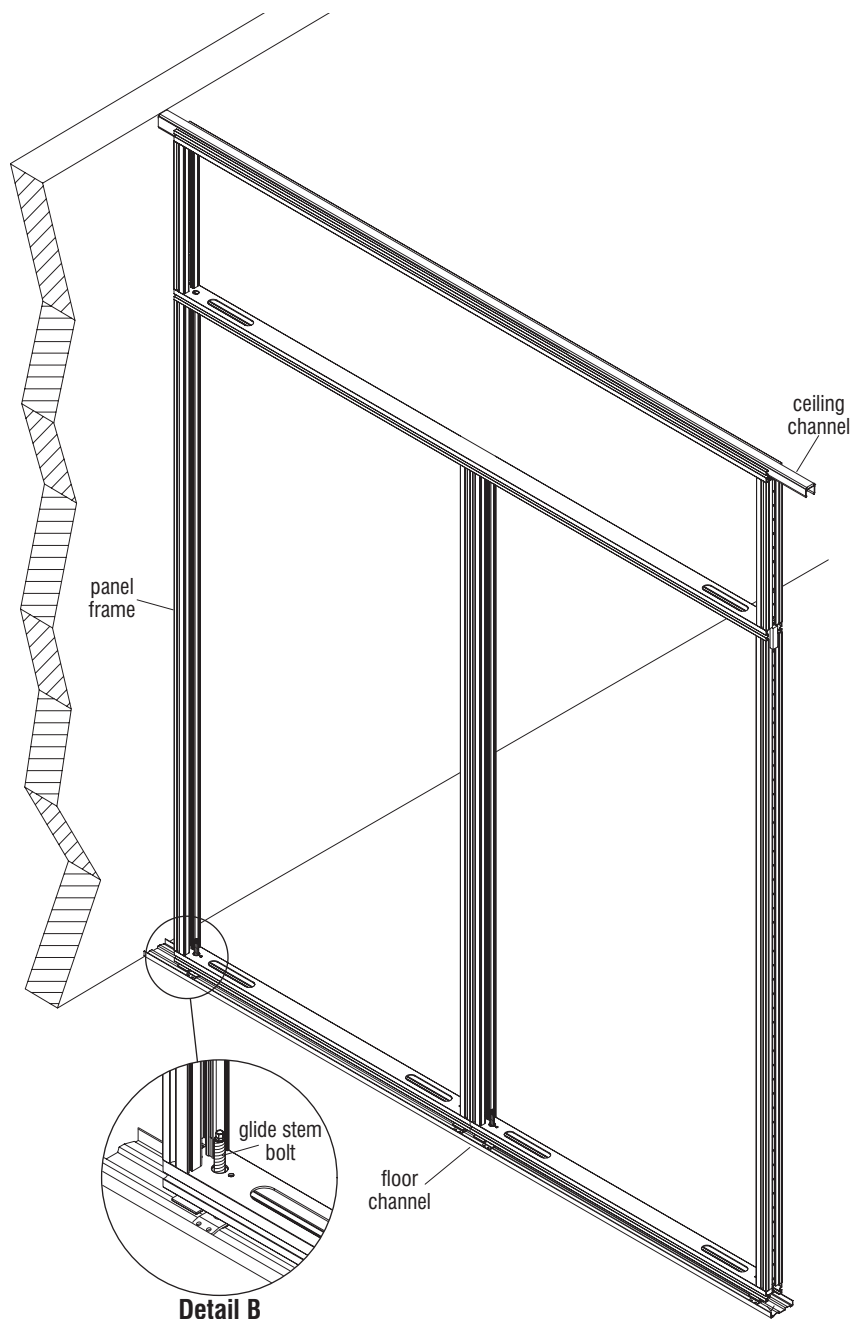

Figure 2
6. With the help of two or more people, carefully rotate the panels with spanning stacking section up, setting the bottom of the assembled unit into the floor channel and tip the unit up vertical, directly under the ceiling rail. With help holding the panels with stacking section upright vertical, use the same power drill, 18" extension with  $\frac{5}{16}$ " socket and raise the assembly up into the ceiling rail by turning all glide stem bolts clockwise (Figure 2 & Detail A).
7. Assure that the panels with panel-spanning stacking section is set to its final installation location, then adjust glides to achieve leveled panels, fully engaging the ceiling rail (Figure 2). See page 20 "Panel Height Adjustment" steps 5–8 for reference.